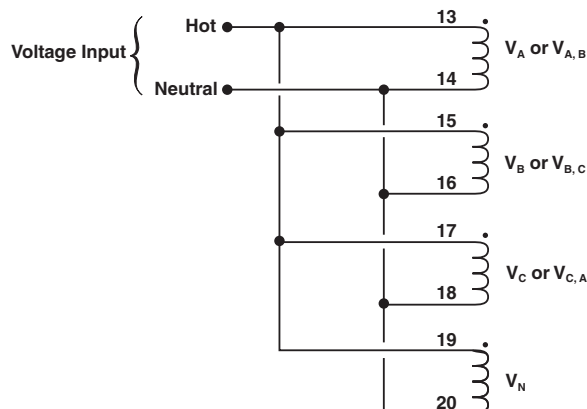

Figure 7-3 Single-Phase Voltage Input Configuration for Calibration
4. Connect and configure the voltage inputs (V_A , V_B , V_C and V_N) according to Figure 7-3.